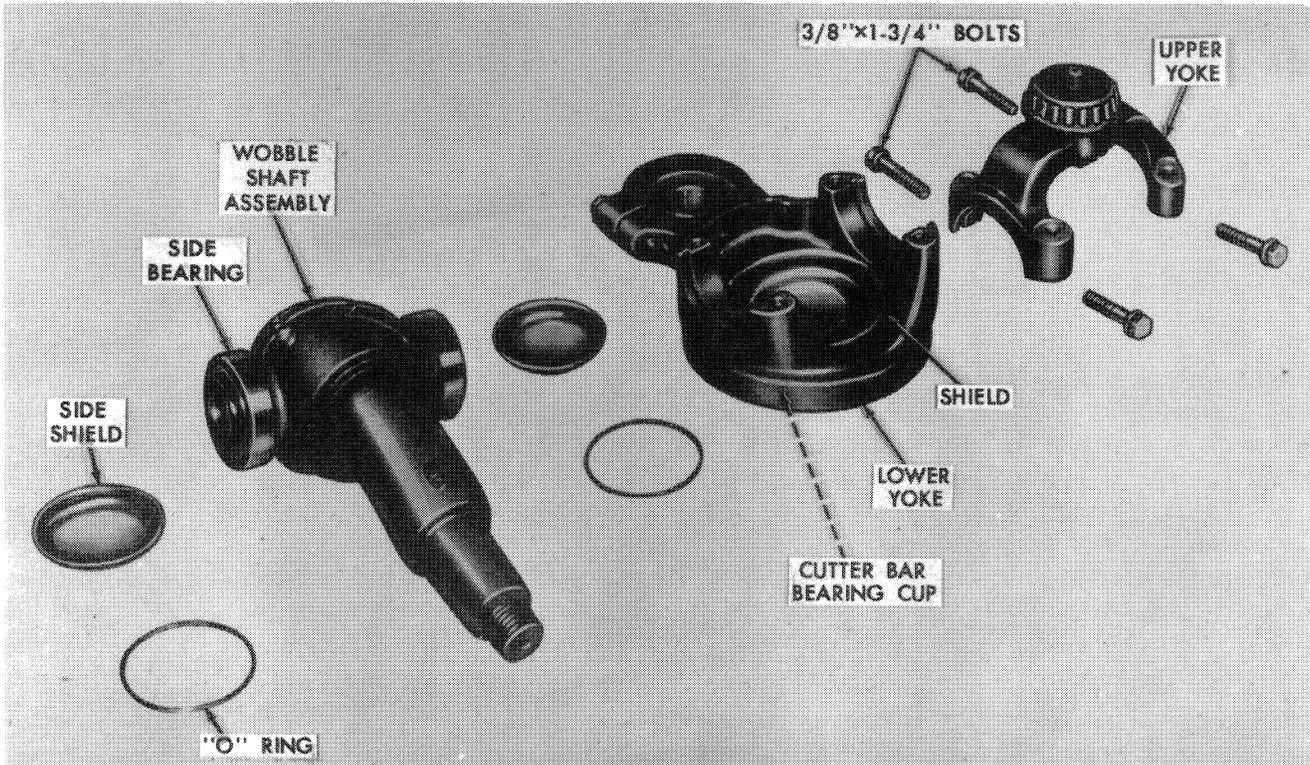

Figure 11
2. Disassemble the knife drive assembly as shown in Figure 11, and as outlined below: